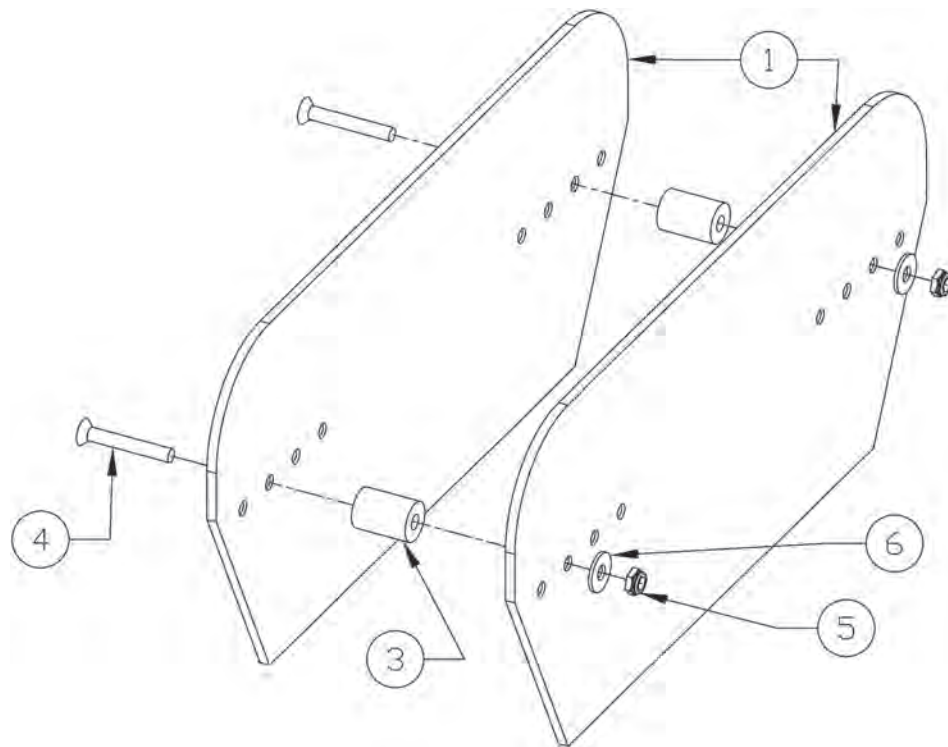

FIGURE 3
2. Assemble additional storage slot(s) as shown in Figure 3.